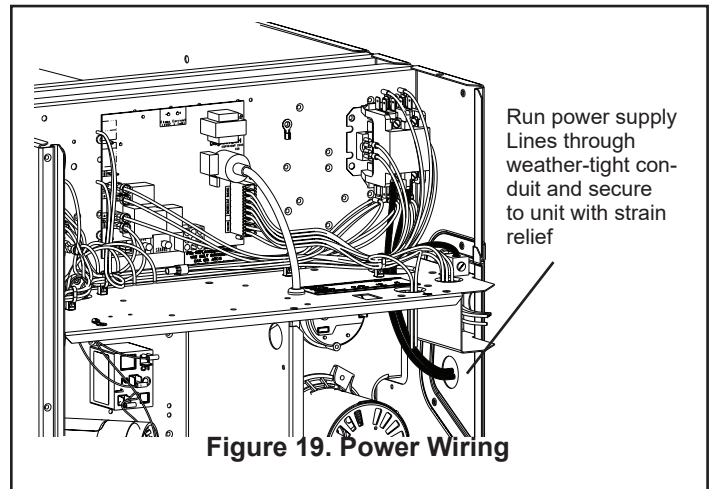

Figure 19. Power Wiring
1. Remove the CONTROL/HEAT access panel. Pass the power wires through the Power Entry hole in the end of the unit. See Figure 19.